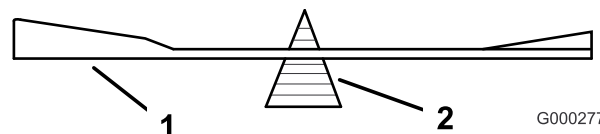

Figure 60
2. Check the balance of the blade by putting it on a blade balancer (Figure 60).